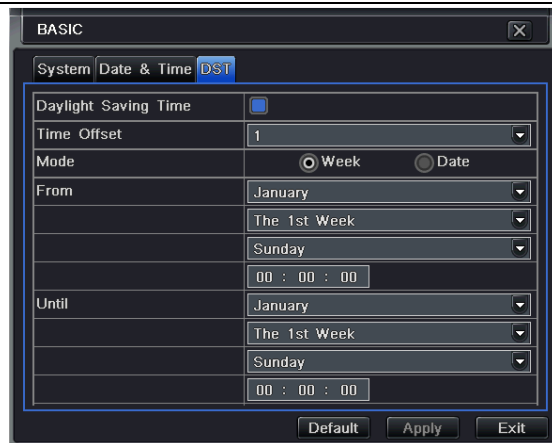

Fig 4.4 Basic Configuration - DST
Step 1: Enter into system configuration → basic configuration → DST. Refer to Fig 4.4.